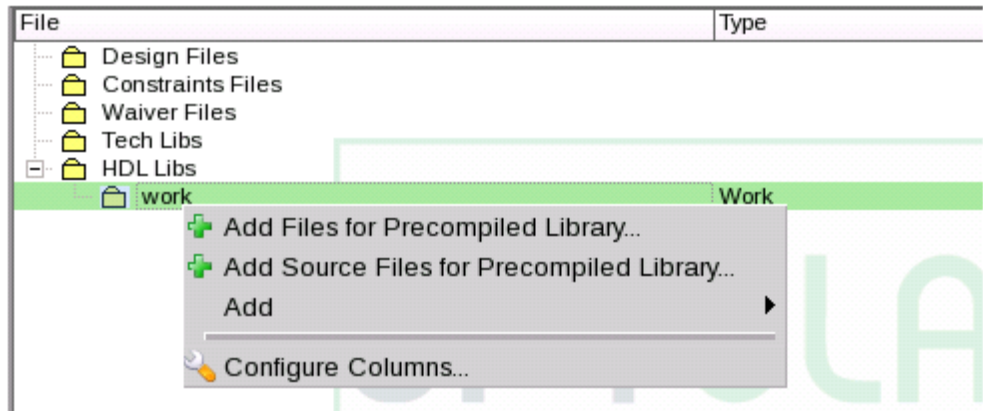

FIGURE 139. Right-Click Men for Logical Library
1. Right-click on any logical library (Figure 139).
1. Right-click on any logical library (*Figure 139*).